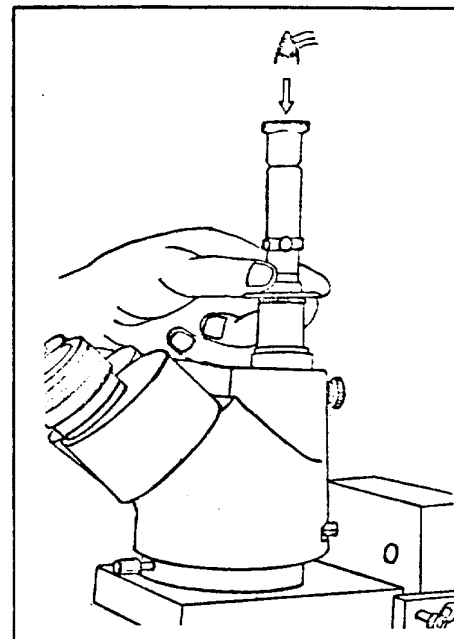

Fig. 37
Then revolve the photo eyepiece sleeve (11) to focus the collimator reticle (Fig. 37).
- 2) Changing over the optical path by the lever, check that the focus remains the same, then fix (10), (11) firmly with adhesive screwlock.
- 3) Assuring that screwlock on (10), (11) is dried up, release the screws (101d)x3 and move (10) to bring the Kellner reticle into coincidence with the collimator reticle.